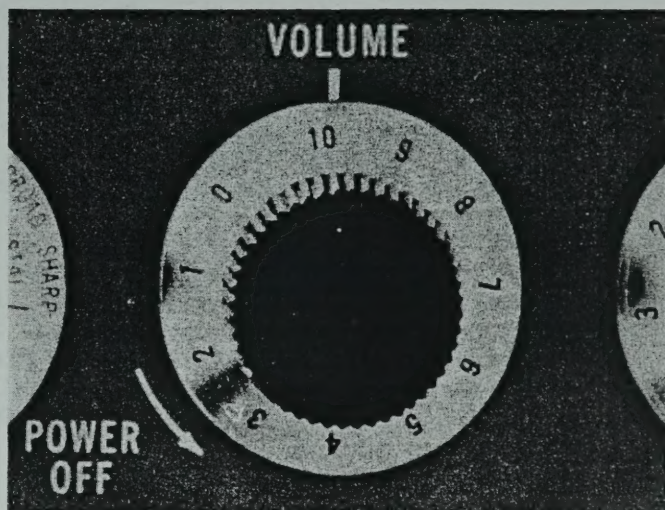

Figure 2. View showing Volume Control
Turn the VOLUME control to the left as far as possible. (See Fig. 2) This turns off the radio. Plug the power cord into the a-c outlet.
7. To control the volume, adjust the VOLUME control (See Fig. 2) by turning it to the right for a louder signal or to the left for a softer signal.